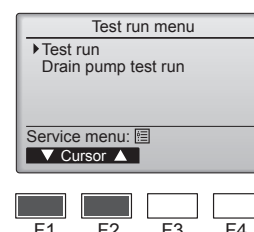

Fig. 7-2
- (2) Select "Test run" from the Test run menu, and press the [SELECT] button. (Fig. 7-2)
- (3) The test run operation starts, and the Test run operation screen is displayed.